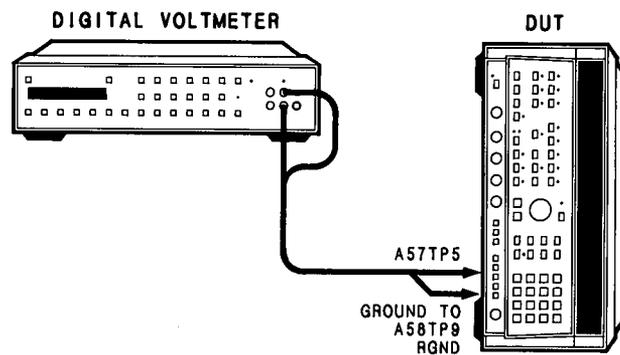

Figure 5-34. Marker Band Crossing Test Setup
1. Place the DUT in the test position and connect the test equipment as shown in Figure 5-34. Allow one-half hour for warmup.